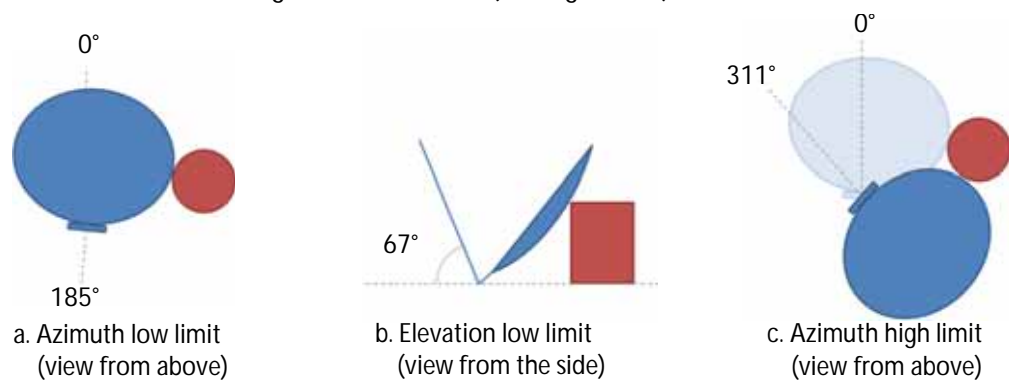

Figure 6-4: Dish blocking zones, example with cylinder-shaped blocking object
6. Define the dish blocking zones as follows: (see Figure 6-4)